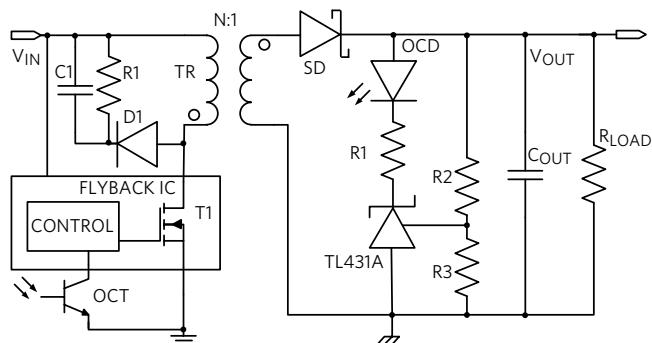

Figure 30. Flyback with Optocoupler
Using galvanically isolated transformers with PWM control is the most common architecture for an isolated DC-DC power supply. The flyback converter is the classic architecture that produces an isolated output. *Figure 30* shows the traditional implementation. During the "ON" time of the transistor T1, the voltage across the primary winding is positive (equal to V_{IN}) and the voltage across the secondary winding is negative. Consequently, the Shottky diode (SD) prevents energy from passing to the output and the energy is stored in the transformer. During the "OFF" time of T1, the primary winding inverts its voltage, which allows the energy to be released to the output. The control loop is quite complex, often requiring a shunt regulator (TL431A) on the secondary to regulate the voltage at the output. An optocoupler and error amplifier on the secondary-side of the transformer provide the isolated feedback signal needed to close the PWM control loop to the primary side.